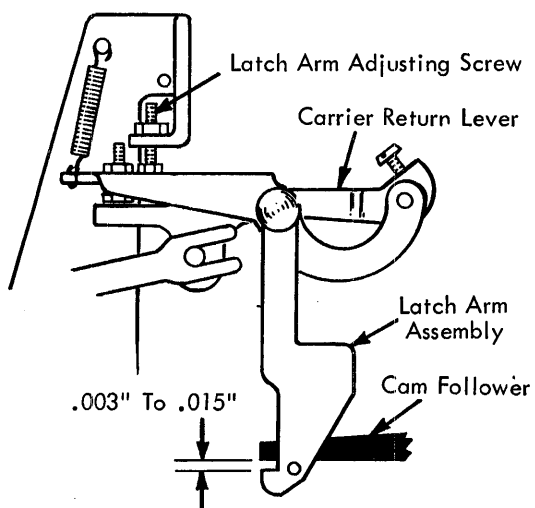

FIGURE 203.2 Carrier Return Latch Height (15 Inch Late Style)
- a. Carrier Return Lever - Position the carrier return lever laterally on the operational pivot pin so that the carrier return latch will hang vertical without binding against its interposer (Fig. 203.2). Be sure to tighten the screw in the lever onto the flat portion of the pin.
- b. Carrier Return Latch Arm Assembly Adjusting Screw - With the carrier return cam latched in the rest position, adjust the screw so that the carrier return latch will pass under the cam follower by $.003''$ to $.015''$ (Fig. 203.2).